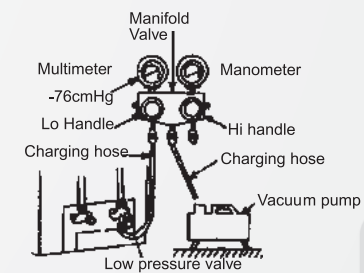

Fig.10
- Tighten the nut of low-pressure valve. (As shown in Fig.10)